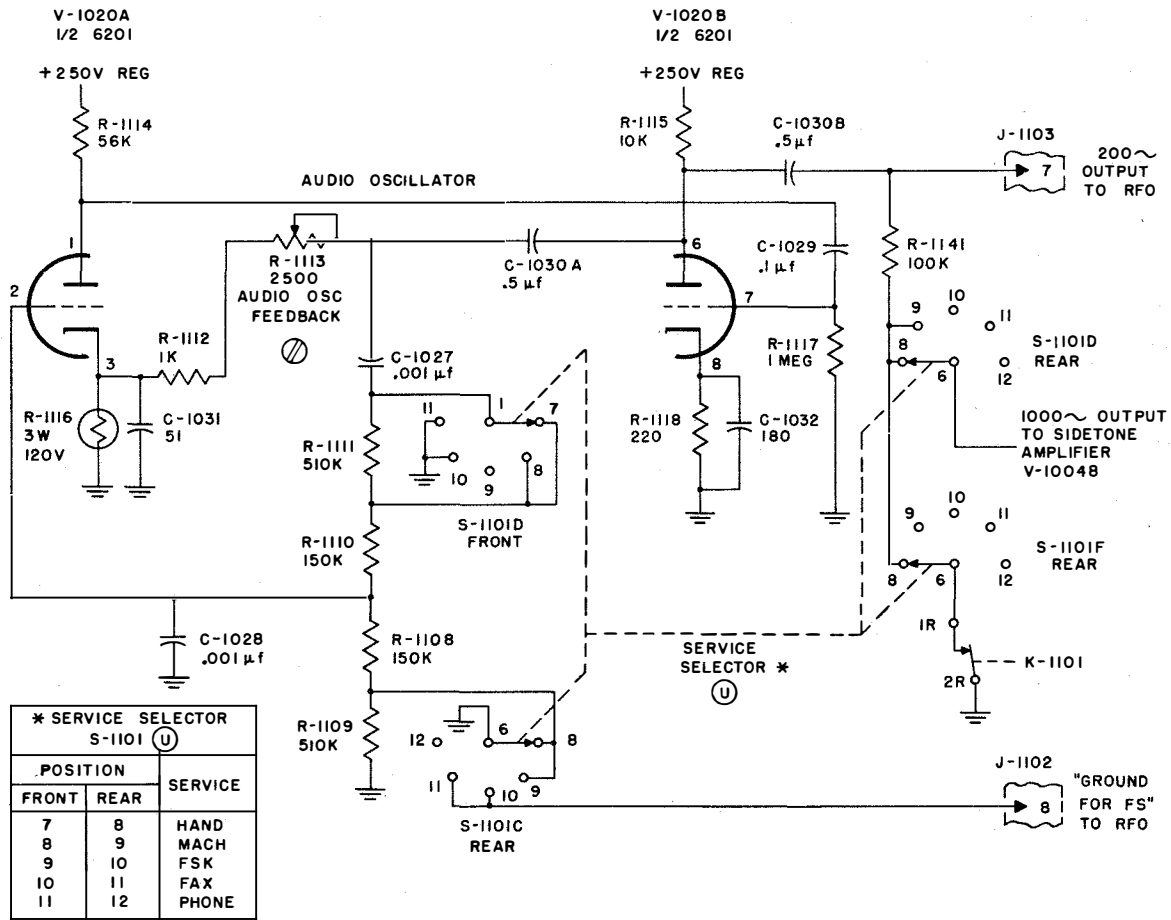

Figure 2-86. Audio Oscillator V-1020, Simplified Schematic
(8) AUDIO OSCILLATOR V-1020.—The audio oscillator, V-1020, figure 2-86, is a Wien-bridge oscillator with two outputs. In FSK operation, the output is a 200-cycle signal whose purpose is to phase-modulate the frequency-shift oscillator in the RFO, whenever it is necessary to prevent selective fading. Radio waves of